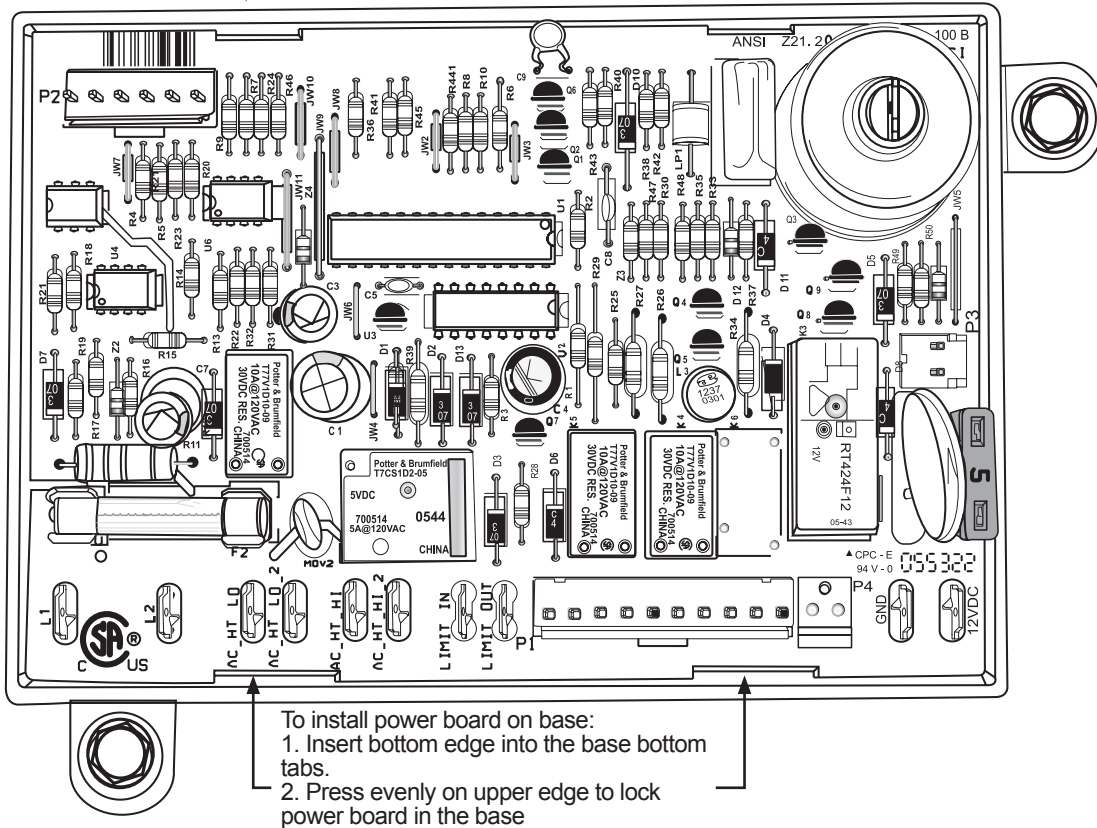

Figure 7-13. Power board, removal / installation.
12. Remove the existing power board from the base and install the replacement power board. See Figure 7-13, page 60.